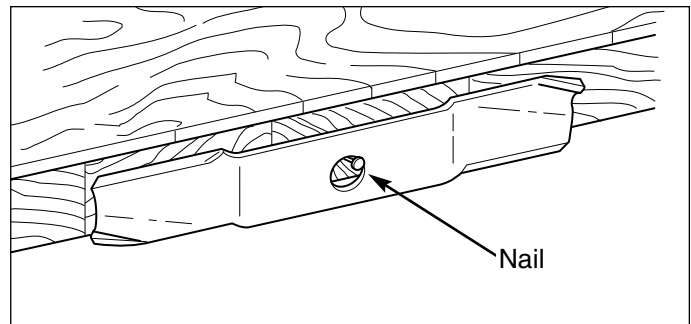

Figure 8. Balancing The Blade
5. Balance the blade as shown in Figure 8. Center the blade's hole on a nail lubricated with a drop of oil. A balanced blade will remain level.